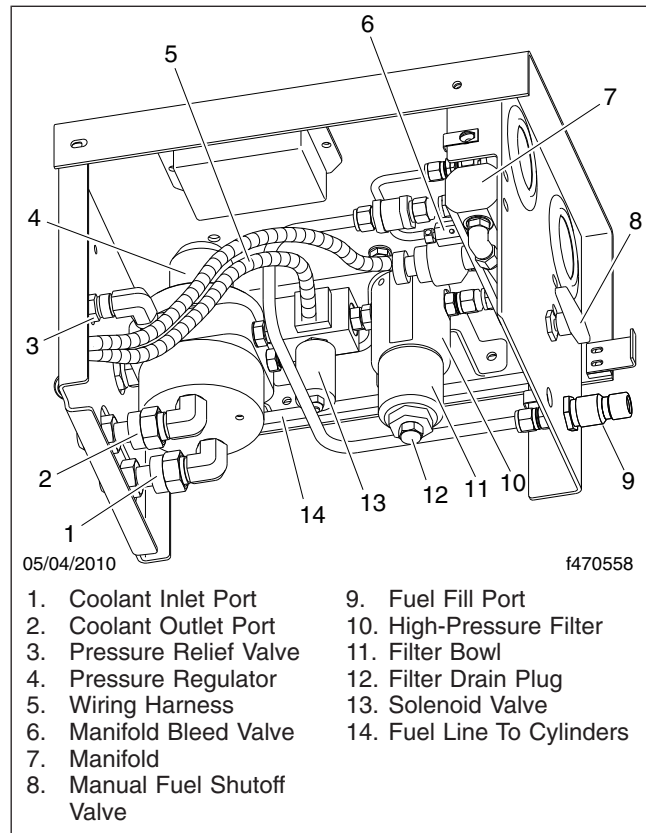

Fig. 11.17, CNG Fuel Panel Components
- 2.4 Slowly open the bleed valve on the manifold to relieve remaining fuel pressure within the system. See **Fig. 11.17**.